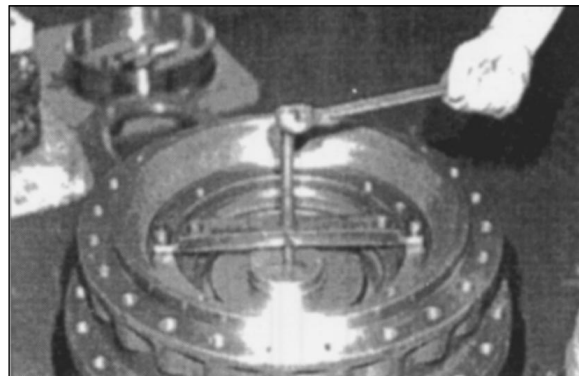

Figure 120
29. Install jig to hub and insert spring retainer disc under left side of circlip. Figure 120.